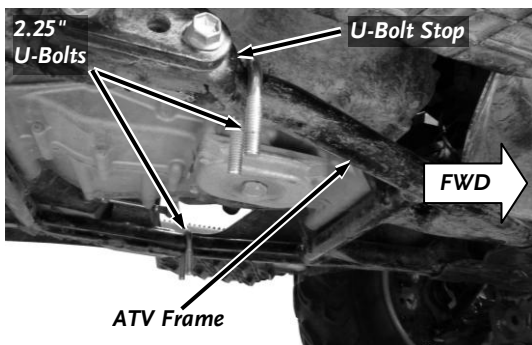

Figure 10
- Round Tube Frame (also some Polaris Frames):** Lower the Universal Mount and place a 2.25 Long U-Bolt around the Frame on both sides where it can rest against a stop on the rear facing side of the U-Bolt (Figure 10).